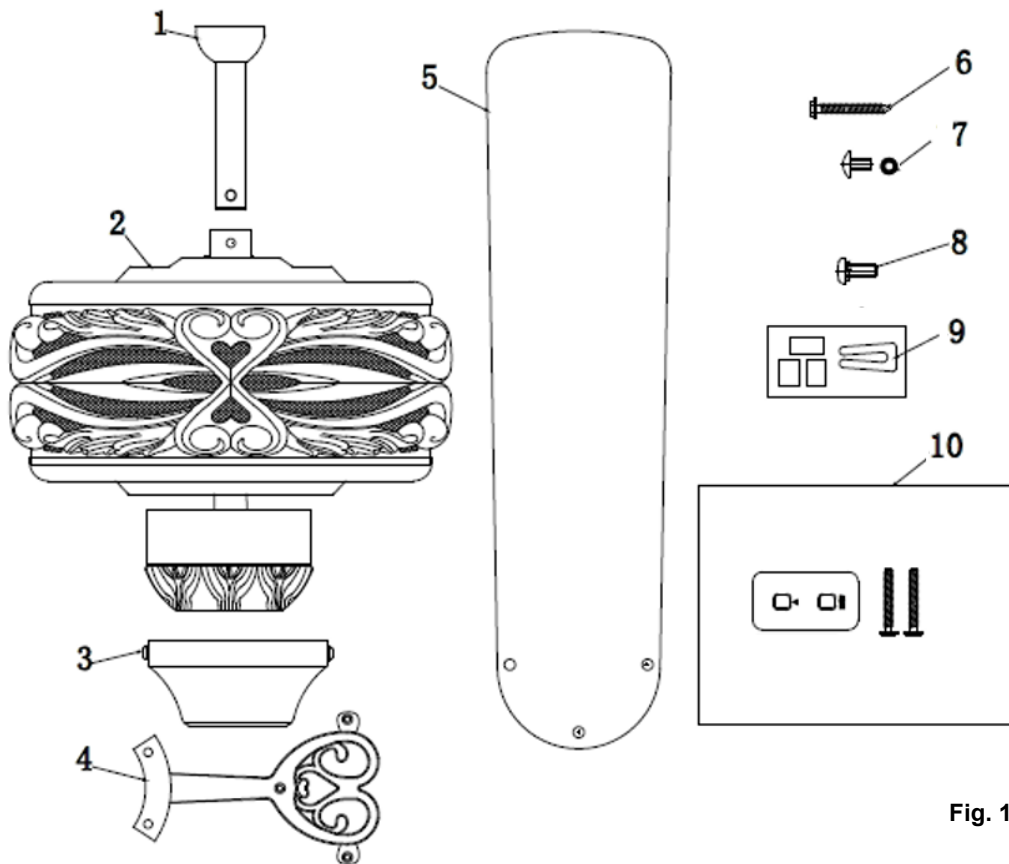

Fig. 1
- Examine all parts, you should have the following (Fig. 1):